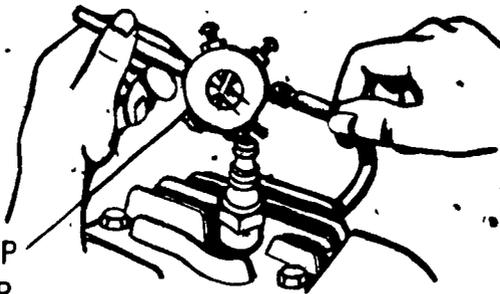

FIGURE 4
- I. Hold end of the spark plug wire approximately 1/4 inch from the cylinder head or use a spark tester (Figure 4)